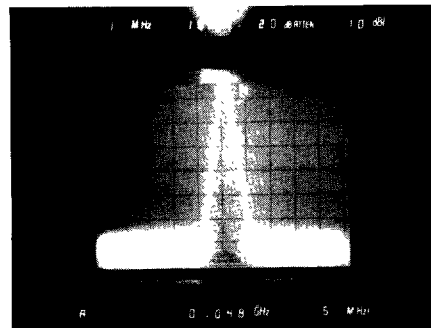

Figure 4-10. Fundamental Frequency, Spectrum Analyzer Display
- c. On spectrum analyzer, adjust the TUNING control to center the sweeper's fundamental frequency on the display's CENTER FREQUENCY graticule line; see Figure 4-10.